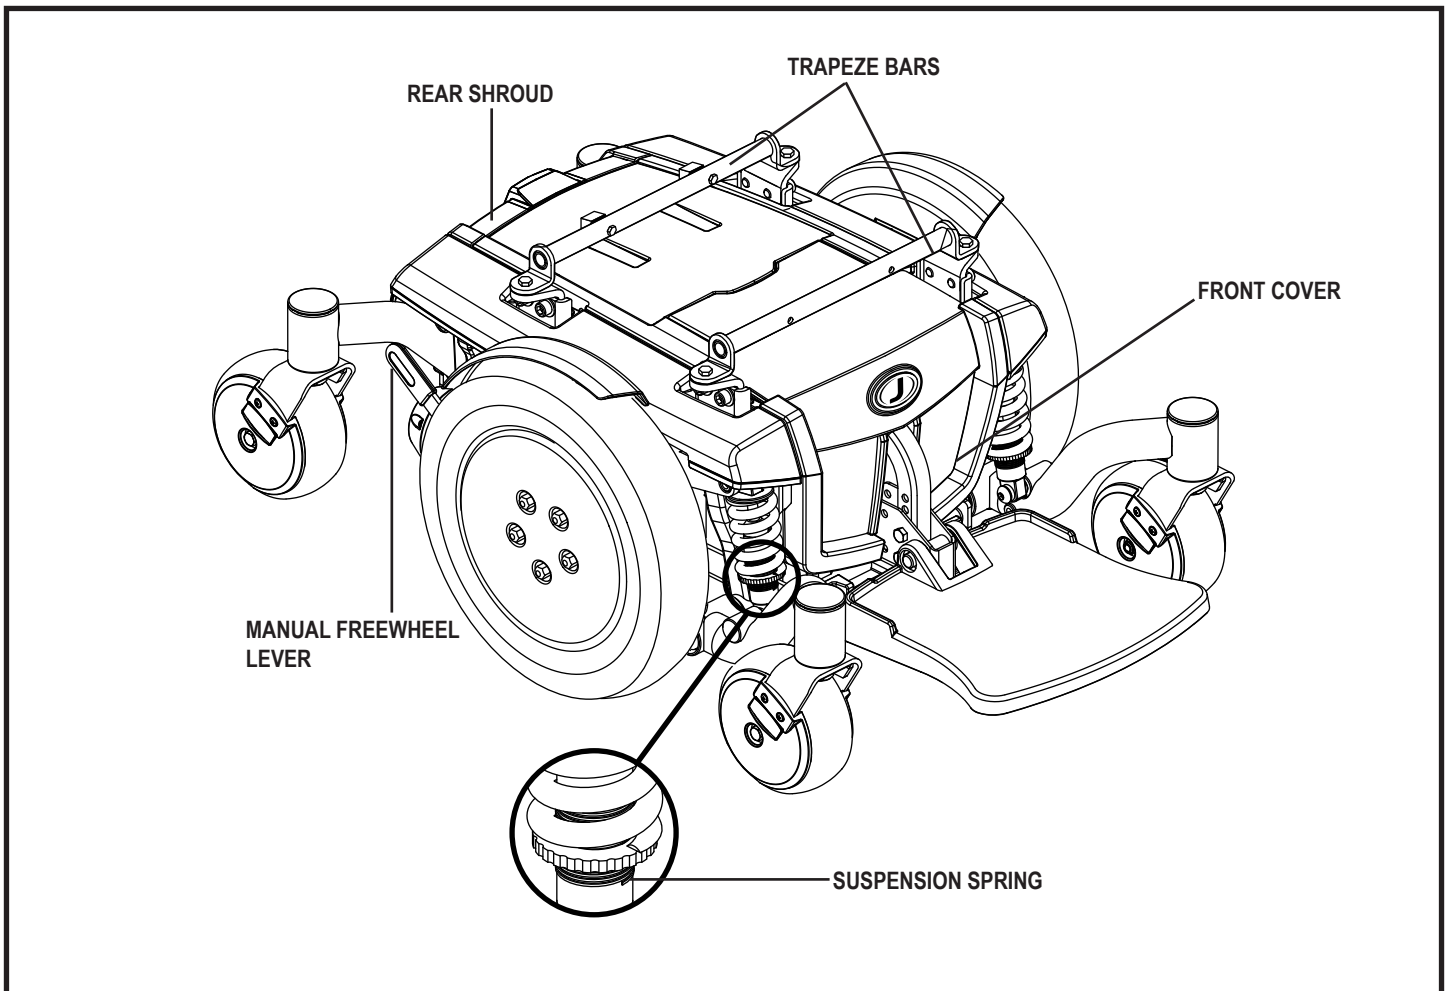

Figure 2. The Jazzy® 600 ES Power Base
3. Remove the rear shroud. See figure 2.
5. Reinstall the rear shroud. See figure 2.